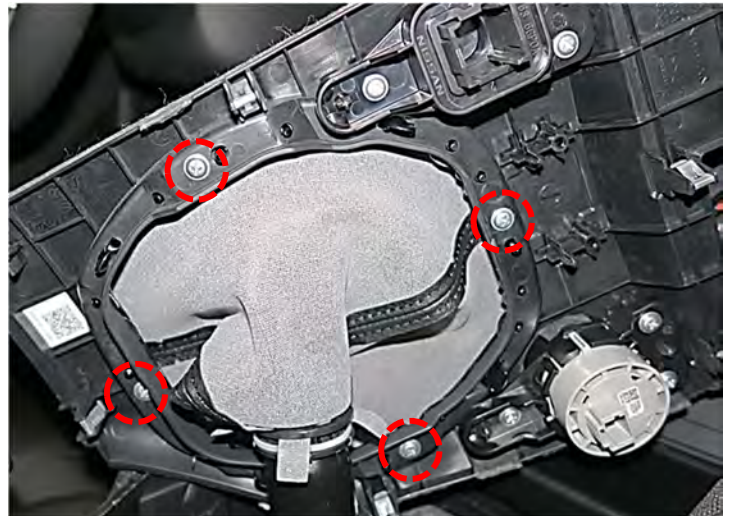

Figure 122
- Lift the shifter finisher upward and install the (4) screws shown in Figure 122